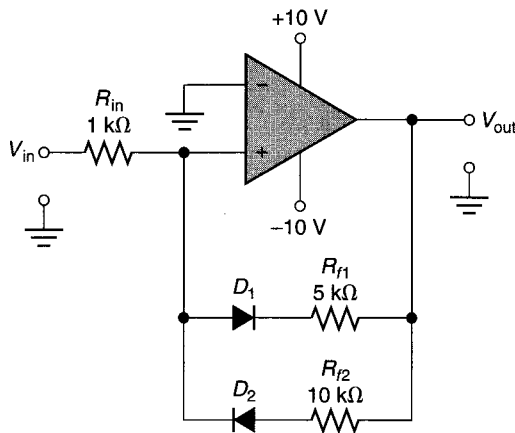

FIGURE 19.57
23. Determine the UTP and LTP values for the Schmitt trigger in Figure 19.57.